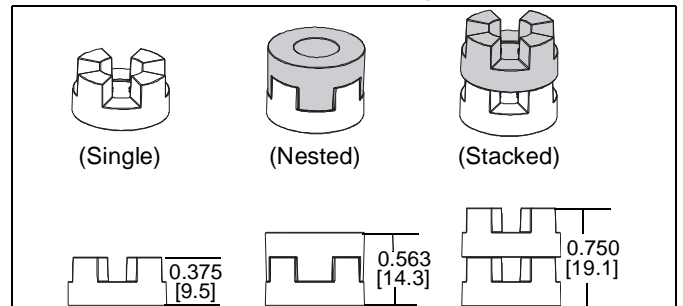

Figure 21
NOTE: The nesting spacers (M) may be used separately, or put two together in different configurations to create different size spacers. (See Figure 21)